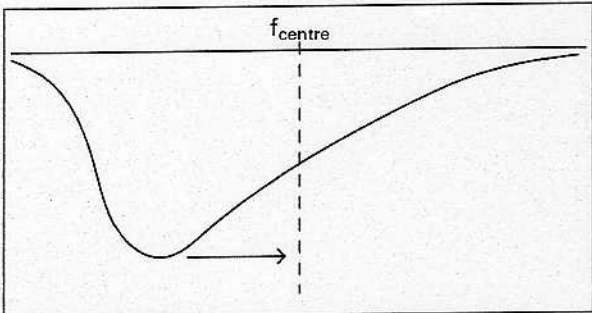
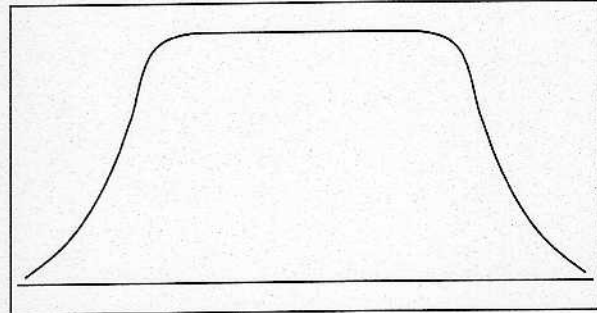

Fig. 24
Fig. 25
- j) Readjust the input tuning by repositioning the lower of the two rings on the input cavity (see Fig. 24) to regain the flat frequency response at the output of the tube as in Fig. 25. Fine-tuning of the output cavities may be necessary at this point.